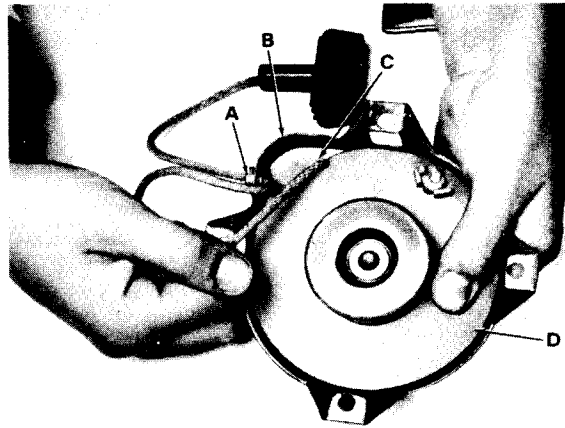

Figure 108. Tension Release of Rewind Spring.
- a. Relax the tension on the starter cord by holding the starter assembly with the pulley up. (See Figure 108.)
- a. To replace the starter rope, insert a new rope through the pulley (D) and then through the rope exit hole (A) in the starter housing (B). (See Figure 108.)
- c. Pull all the excess rope through the exit hole (A), grasp the rope with your fingers at point (C) where it enters the starter pulley (D).
- e. Hold the starter pulley (D) stationary with your thumb and remove all the slack from the rope. Release the thumb pres-